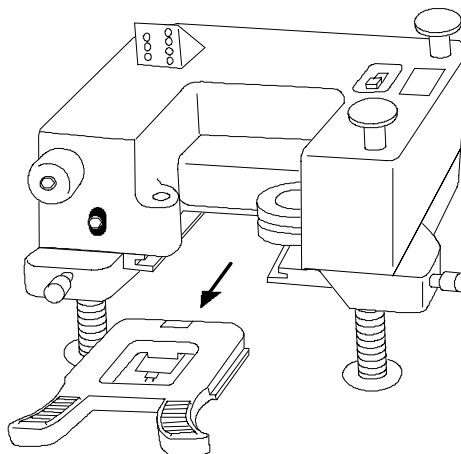

Figure 2-5. Removing the cartridge from the probe head.
3. If there is a probe cartridge installed in the probe head, remove it now by grabbing the two prongs (using one or two hands) and sliding the cartridge out towards you, as shown in Figure 2-5.